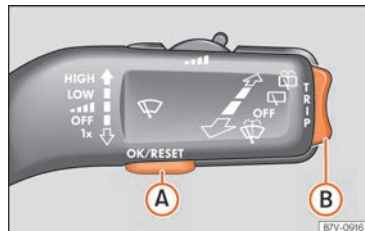
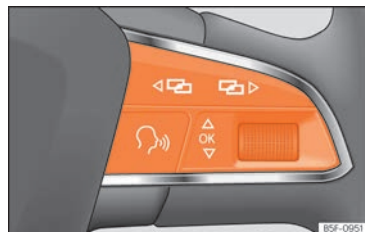

Fig. 46 Windscreen wipers: buttons to access the instrument panel menus
Fig. 47 Multi-function steering wheel: buttons to access the instrument panel menus
- If a message or vehicle symbol is displayed, press **OK** (»» Fig. 46 **A**) or »» Fig. 47).
- Press rocker switch **»» Fig. 46 B** upwards or downwards, or, on the multifunction steering wheel, turn the thumbwheel until you reach the required menu option.